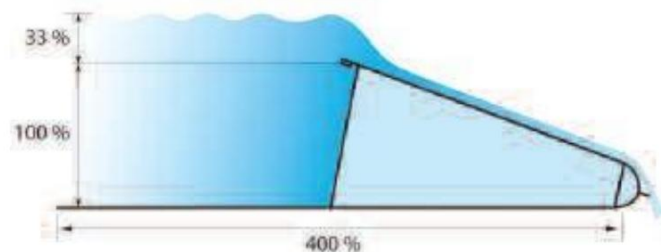
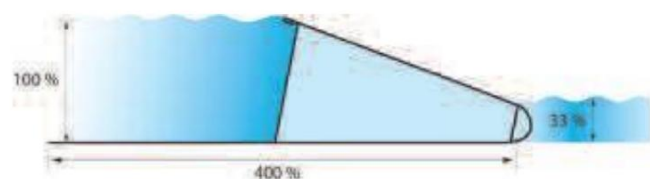

Fig : 1
Fig : 2
It is unlikely that the situation illustrated in the figure 1 occurs because there is no water accumulation at the back. In this case, the barrier can handle approximately 33% excess water on the above. This approximate percentage is the point of slippage of the barrier.
B. Excess water behind the barrier: The situation illustrated in figure 2 is the inverse of that in the previous figure. The risk of skid is the same as in figure 1, because the maximum amount of water that is acceptable at the back of the barrier is also $\pm 33\%$.